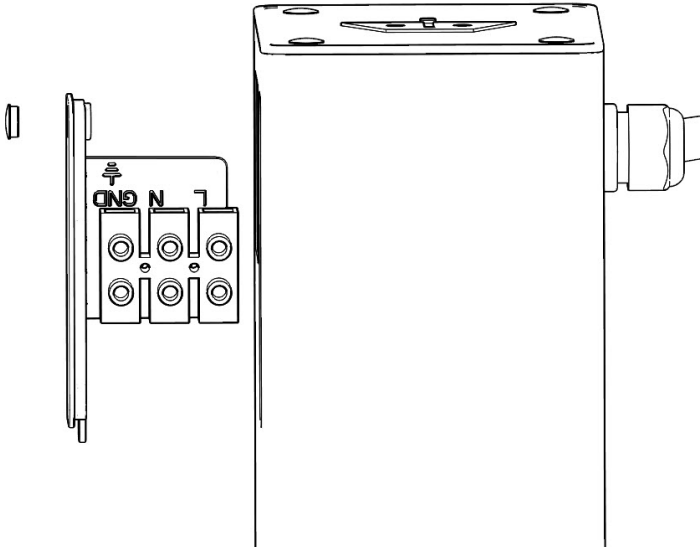

Figure 7
- c. Remove the screws from the wiring cover to access the electrical connections as shown in Figure 7.